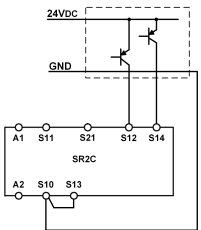

Fig. 8:
- For the applications according Fig. 8 and 9, make sure that the reference potential of the signal generator and the SR2C is the same